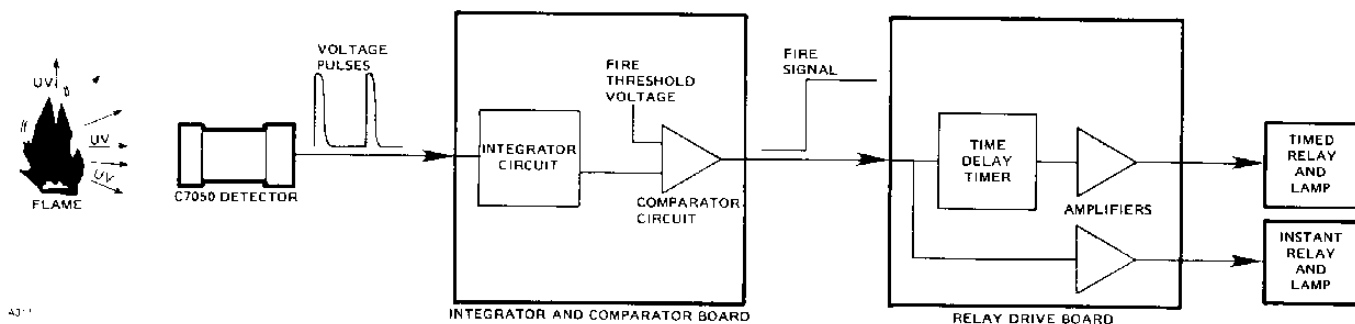

Figure 11—Fire Circuitry Block Diagram
When a detector senses ultraviolet (UV) radiation, it generates a series of voltage pulses and transmits them to the integrator and comparator circuit board in the controller. (Refer to the fire circuitry block diagram - Figure 11). The pulses are amplified and used to charge an integrating capacitor. The voltage on the integrating capacitor is proportional to the frequency of the pulses, which is propor-